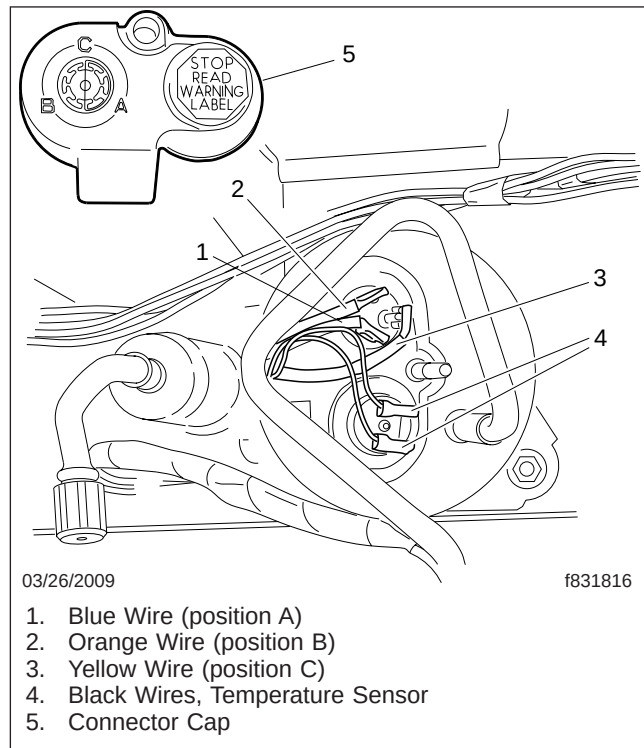

Fig. 3, Compressor Wire Connections
IMPORTANT: Make sure to note the positions of the wires to the compressor motor. Connecting them incorrectly will cause the compressor to malfunction. The wires to the temperature sensor can go either way. See Fig. 3 for wire positions.
25. Connect the wires from the new controller to the compressor motor and temperature sensor. See Fig. 3. Install the cap.